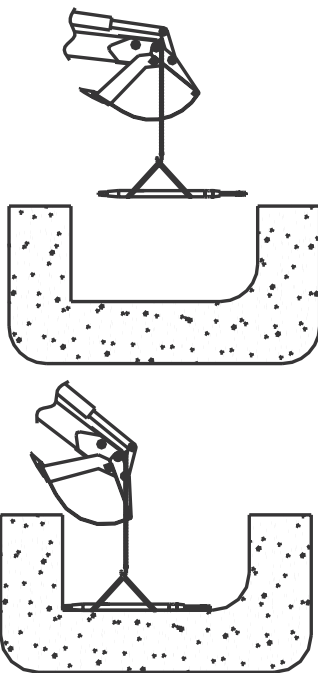

Figure 6-1. Lifting the Hole-Hog
- Any unit over 88 pounds (40kg) cannot be lifted manually. Use slings on either end of the Hole-Hog as shown in Figure 6-1 to lift the Hole-Hog in and out of the trench.
2. Lower the Hole-Hog into the entrance trench with slings, as shown in Figure 6-1., with the piercing tip just touching the wall to be pierced.
Any unit over 88 pounds (40kg) shall not be lifted manually. Use slings on either end of the Hole-Hog as shown in Figure 6-1. to lift the Hole-Hog out of the trench.